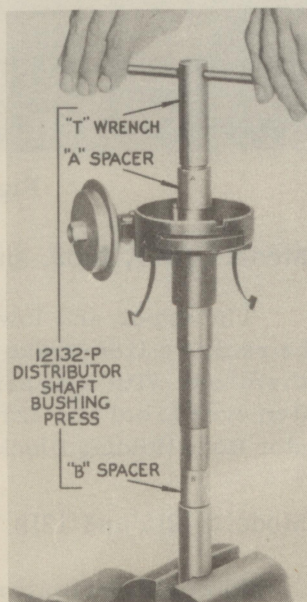

Fig. 9
1. Place on the shaft of the Distributor Shaft Bushing Press (Tool No. 12132-P) the "B" spacer, a new lower base bushing, the distributor housing and the "A" spacer in that order. Turn the "T" wrench down until the bushing is pressed into the distributor base and the base seats firmly against the "B" spacer (Fig. 9).